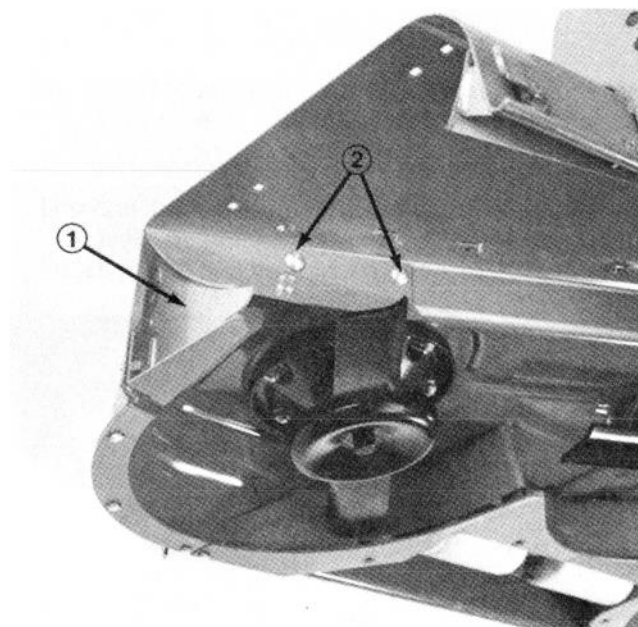

Figure 6
4. Align rear baffle with corner of discharge opening as shown (Fig. 6).
5. Using baffle as a template, mark and drill (3) 3/8" dia holes thru deck.
6. Secure baffle to deck with (2) 5/16 x 3/4" carriage bolts, (1) 5/16-18 x 7/8" capscrew and (3) lock nuts (Fig. 6).